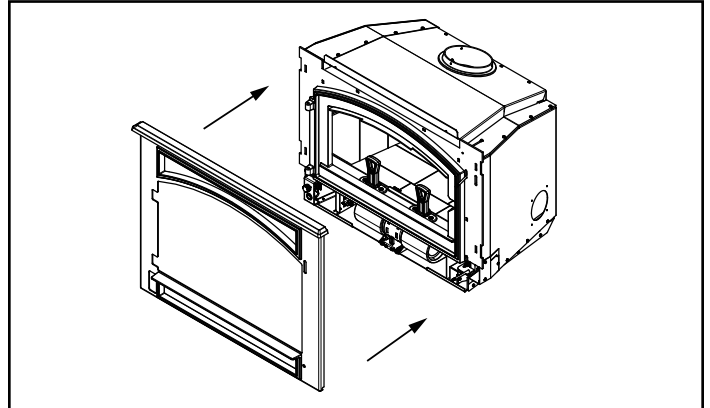

Figure 5.10
5. Reinstall face to front of appliance (**Figure 5.10**).
8. Reinstall face to front of appliance (**Figure 5.10**).